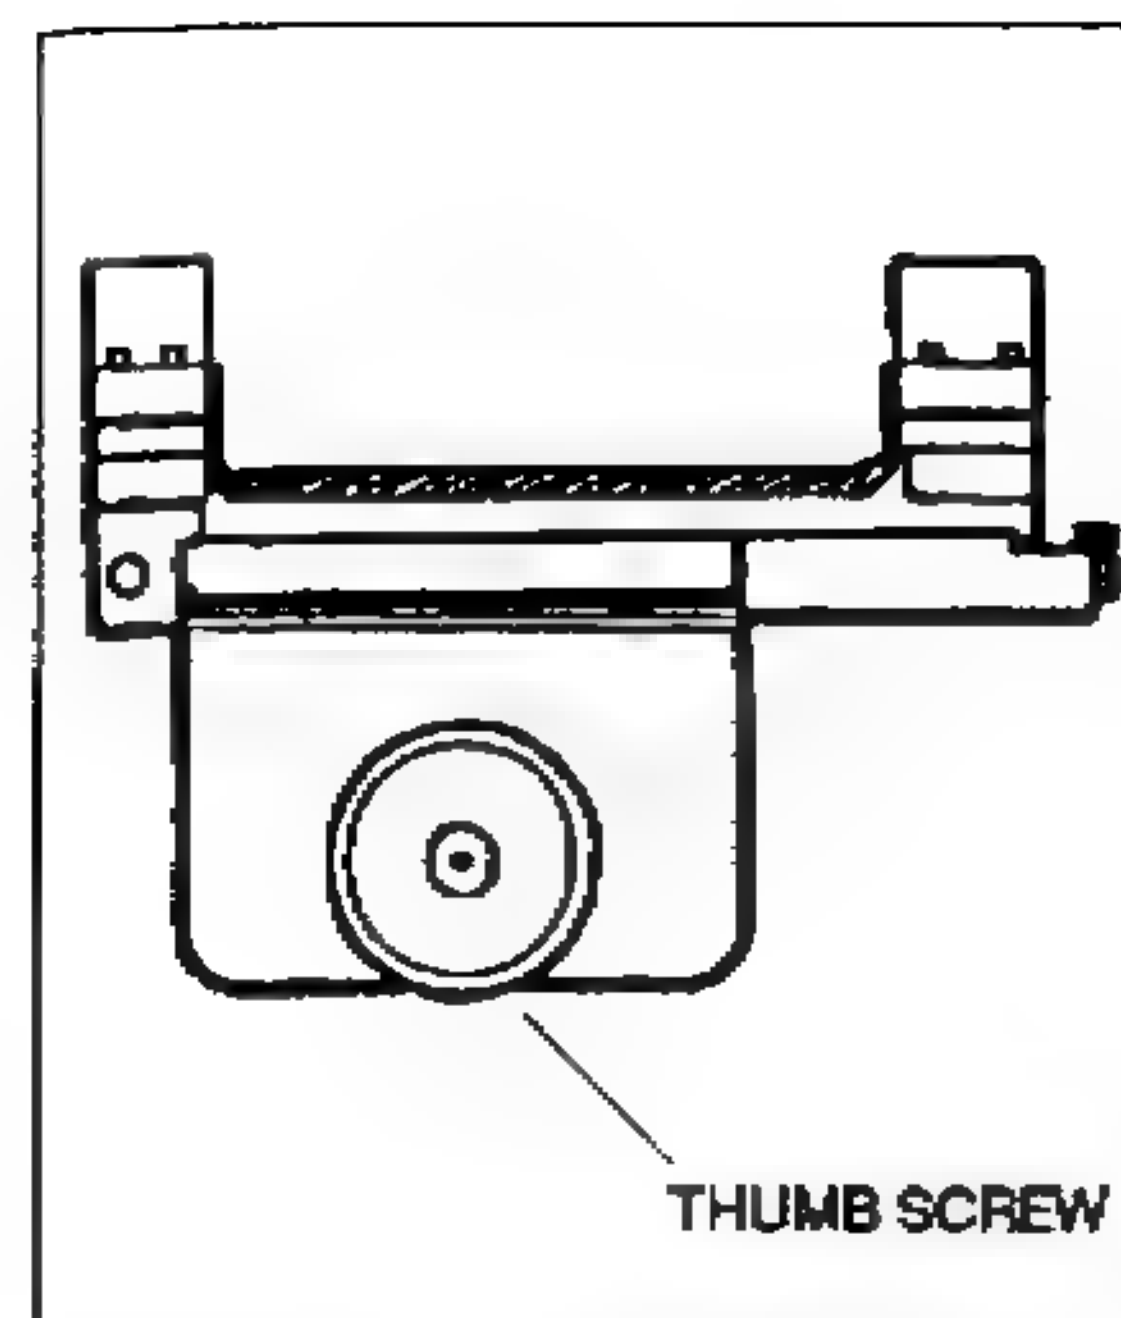
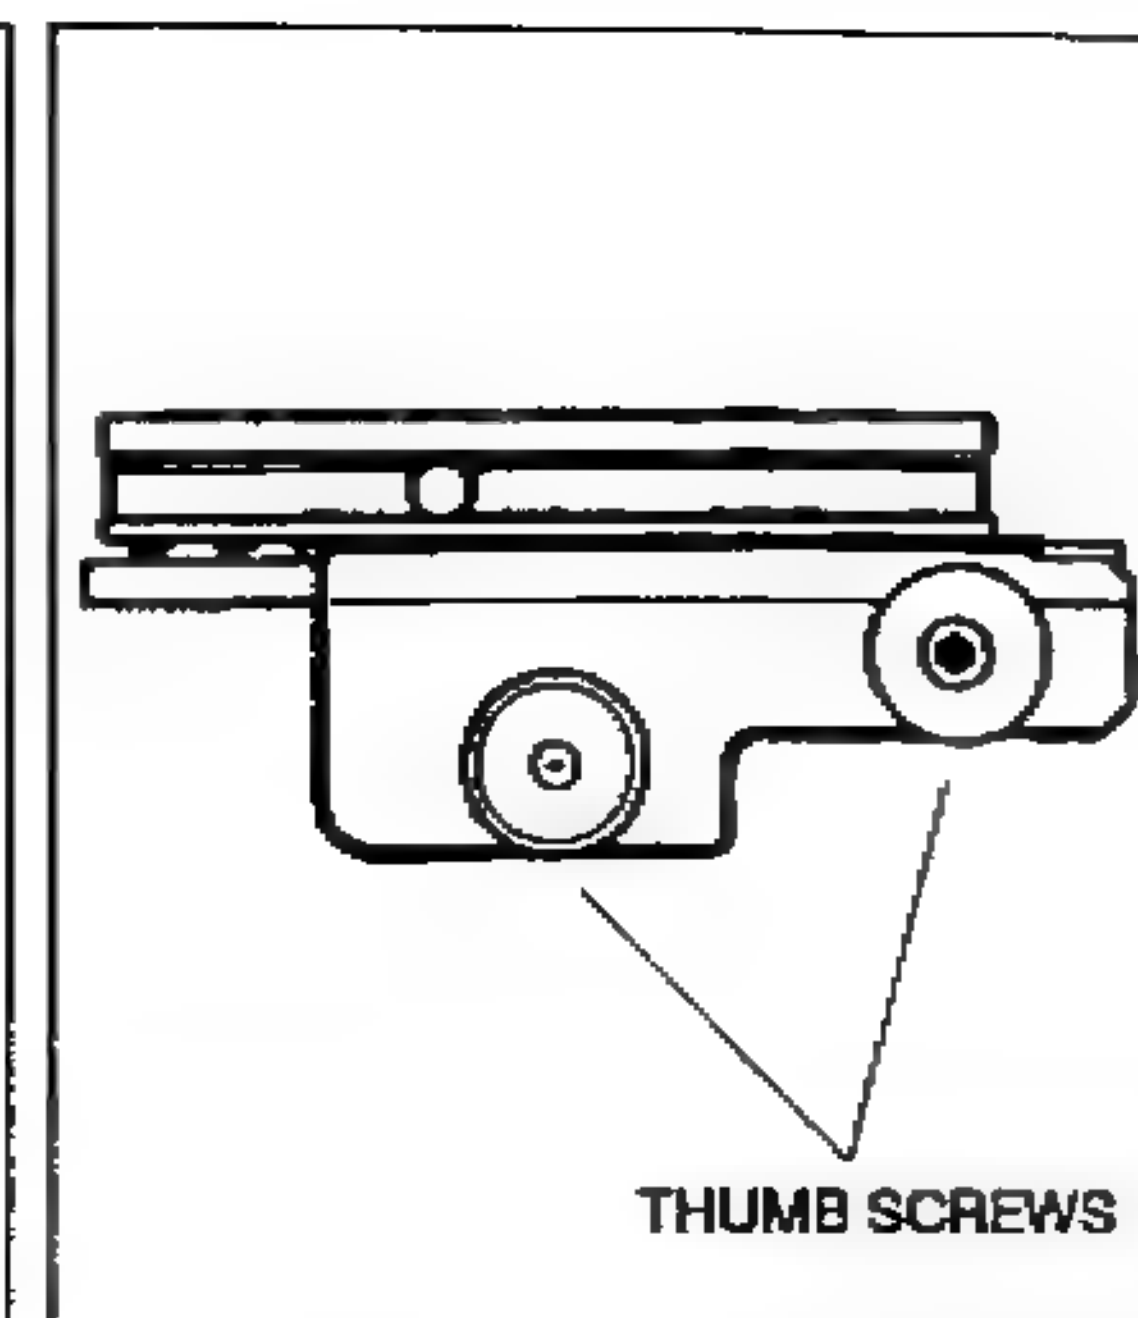

Figure B-8. ART I mount.
Figure B-9. ART II mount.
(5) A ballistic cam is attached to the power adjustment ring on the ART I scope. The ART II scope has a separate power ring and ballistic cam.
(6) The power ring on both scopes increases and decreases the magnification of the scope, while the ballistic cam raises and lowers the scope to compensate for elevation.
(7) Focus adjustments are made by screwing the eyepiece into or away from the scope barrel until the reticle is clear.
b. Scope Mounts. The ART mounts are made of lightweight aluminum consisting of a side-mounting plate and a spring-loaded base with scope mounting rings. The scope mount is designed for low-profile mounting of the scope to the rifle, using the mounting guide grooves and threaded hole(s) on the left side of the receiver. The ART I has one thumbscrew that screws into the left side of the receiver (Figure B-8). The ART II mount has two thumbscrews; one is screwed into the left side of the receiver, and the other is screwed into the cartridge clip guide in front of the rear sight (Figure B-9).